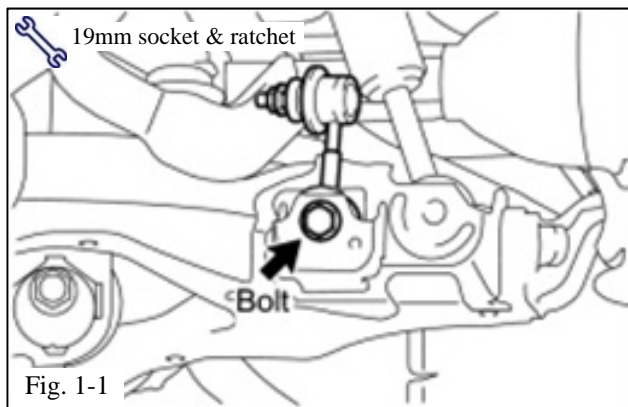

Fig. 1-1
- (b) Place the vehicle in Park (AT) or in gear (MT).
- (f) Use a 19mm socket to remove the bolt and disconnect the sway bar (Fig. 1-1). Retain the bolt for reinstallation.